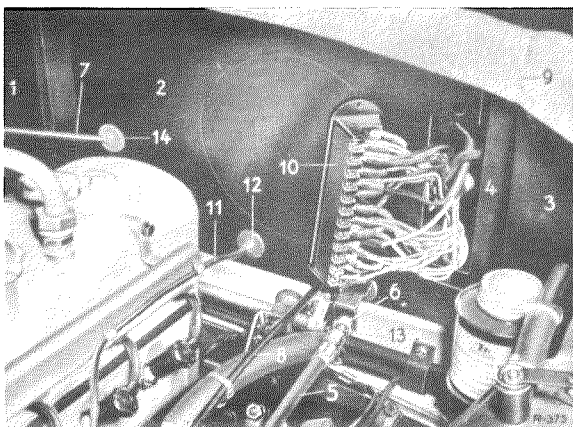

Fig. 68—3/1
- a) Right panel (1)
- b) Bracket for the ATE Power Brake T 50 (center piece) (2)
- c) Bracket for the fuse box (4) (only on left-hand drive cars)
- d) Left panel (3) (Figs. 68—3/1 and 68—3/2).